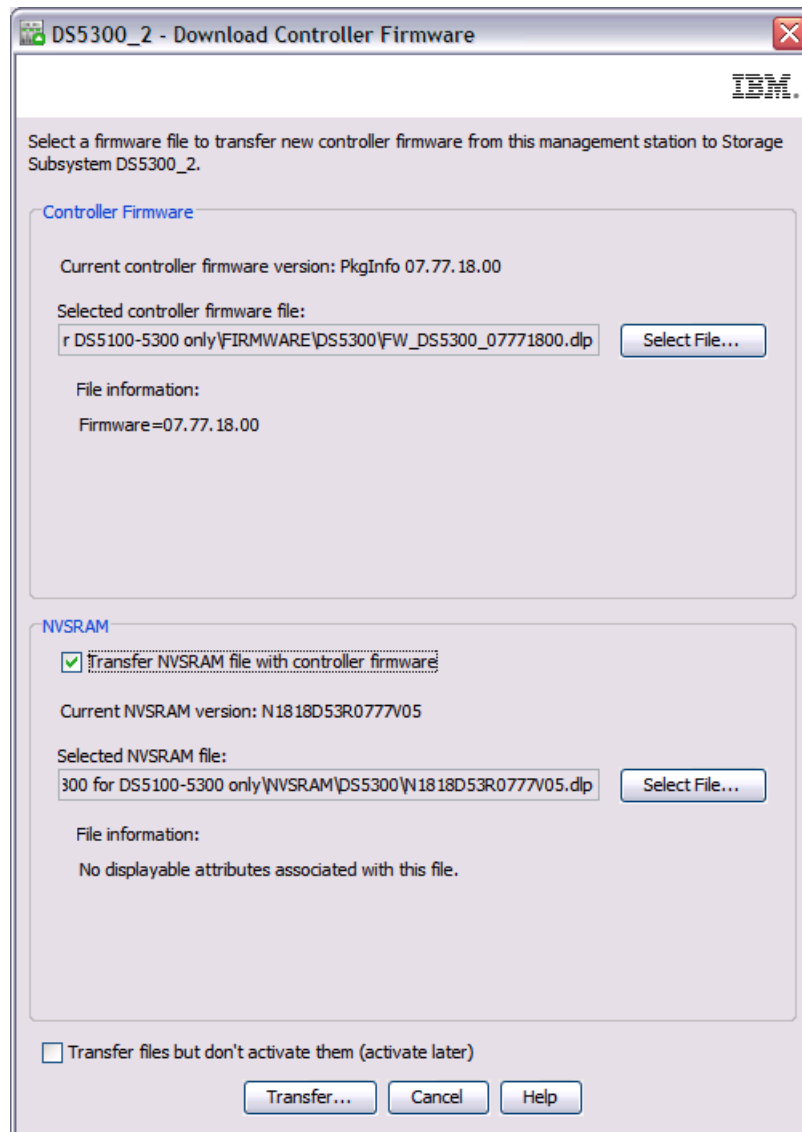

Figure 5-7 Download Firmware window
3. Once precheck is completed, the Download Firmware window opens, showing the current firmware and NVSRAM versions. Select the firmware and NVSRAM files you want to upgrade to, as shown in Figure 5-7. Check the box to download the NVSRAM file as well.